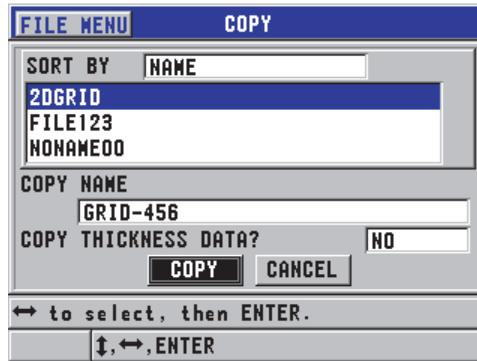

Figure 6-28 Copying a file
2. In the **COPY** screen (see Figure 6-28 on page 106):